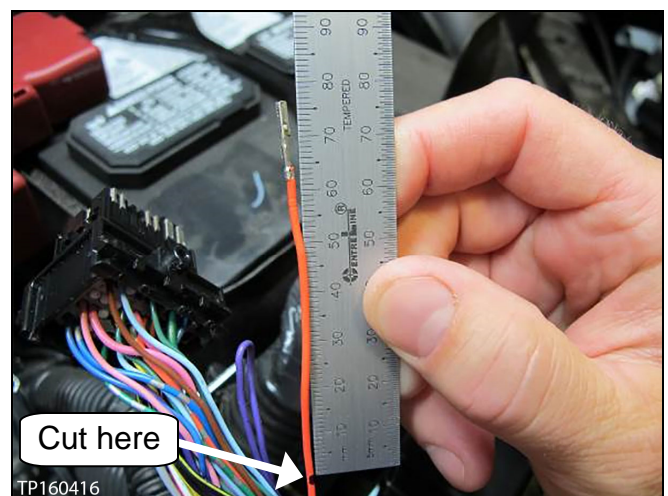

Figure 14
12. Cut the ORANGE wire approximately 75 mm (about 3 inches) from the end of the terminal. See Figure 14.